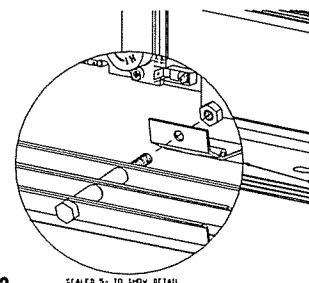

Fig. K-2
4. Install the lower grill. Refer to Figure K-2.